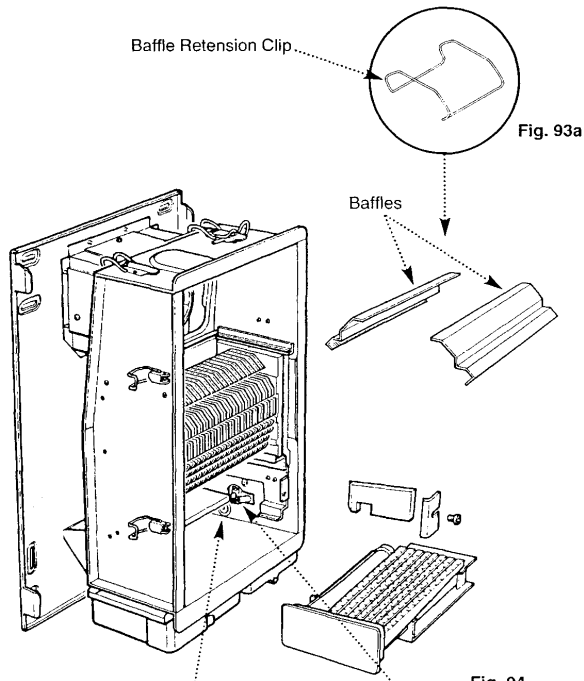

Fig. 94
1. Remove the burner assembly by pulling it forward (Fig. 94).
4. Lift the baffles out of the heat exchanger (Fig. 94).
3. Remove the right hand side insulation carrier bracket by releasing the screw. Remove the side insulation (Fig. 94).